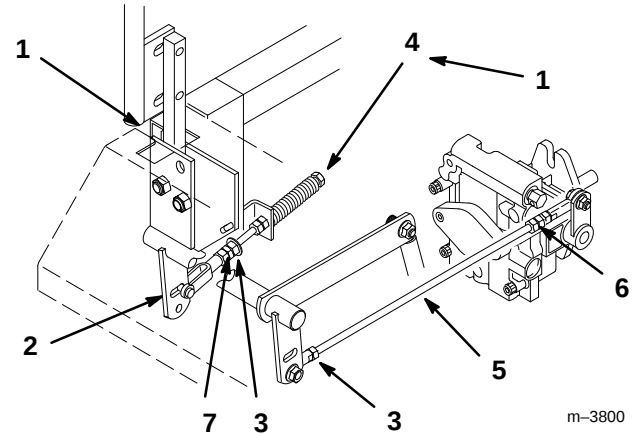

Figure 39
2. Begin with either the left or right motion control lever. Move lever to the neutral (but not locked) position and pull lever back until the clevis pin (on arm below pivot shaft) contacts the end of the slot (just beginning to put pressure on spring) (Fig. 39).
3. Check where lever is relative to notch in console (should be centered allowing lever to pivot outward to the neutral lock position) (Fig. 39).
11. Loosen locknut at ball joint on pump control rod (Fig. 39).
13. Adjust pump rod length by rotating double nuts on rod, in the appropriate direction, until wheel is still or slightly creeps in reverse (Fig. 39).